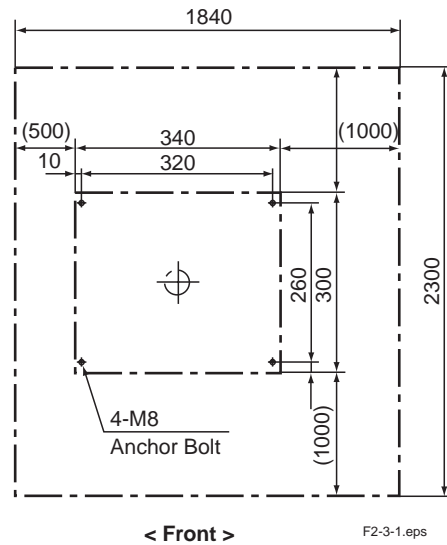

Figure 2.3.1 Anchor Bolt Positions and Maintenance Space Requirement (Pole-mounting Type)
- (1) This analyzer can be sited both indoors and outdoors. When installing outdoors, try to site away from the direct sunlight.
- (2) Site nearby to sampling point.
- (3) Site within ready access of an rating power supply—AC100V.
- (4) Site in a well-ventilated place. Avoid dusty places and places where corrosive gases are generated.
- (5) Secure adequate space around the analyzer for daily inspection and maintenance access. See Figure 2.3.1 to 2.3.2 for maintenance space requirement.
- (1) Mount the anchor bolts as shown in Figures 2.3.1 and 2.3.2. Secure the maintenance area measuring approximately 1000 mm each for front, rear, and right side and approximately 500 mm for left side.